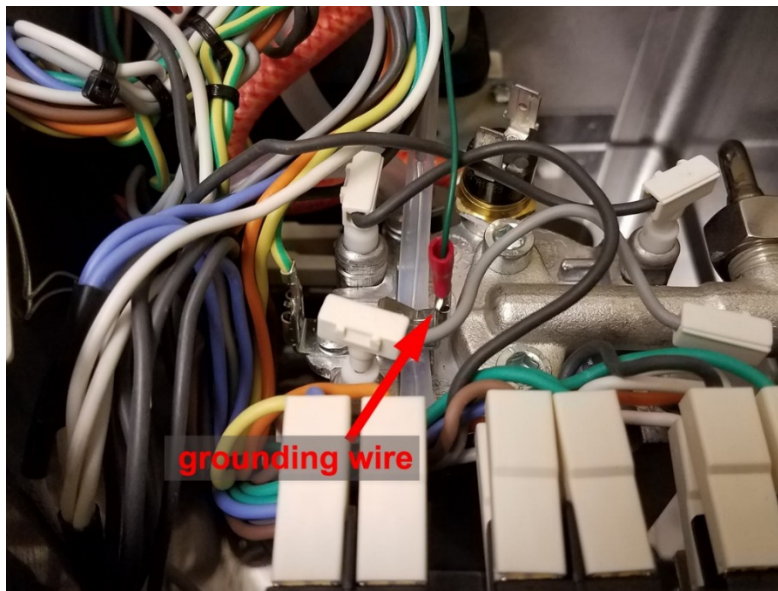

Figure 19. Tapping the grounding wire to the grounding post on the top of the boiler.
- 1) **Locating the grounding post on the top of the boiler.** There is a grounding wire attached to a clip on the top of the boiler, which is pointed by the red arrow in Figure 19.
- 2) **Tapping the green grounding wire from the kit to this post.** Please attach the piggyback connector to this post as shown in Figure 19.